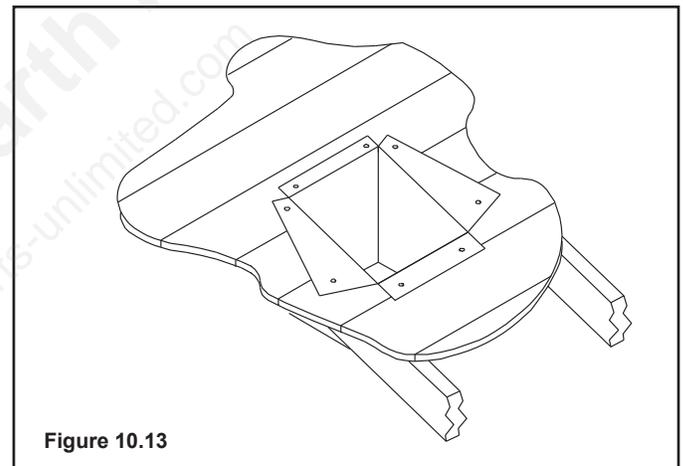

Figure 10.13
- Use tin snips to cut the support box from the top corners down to the roof line and fold the resulting flaps to the roof. See Figure 10.13.